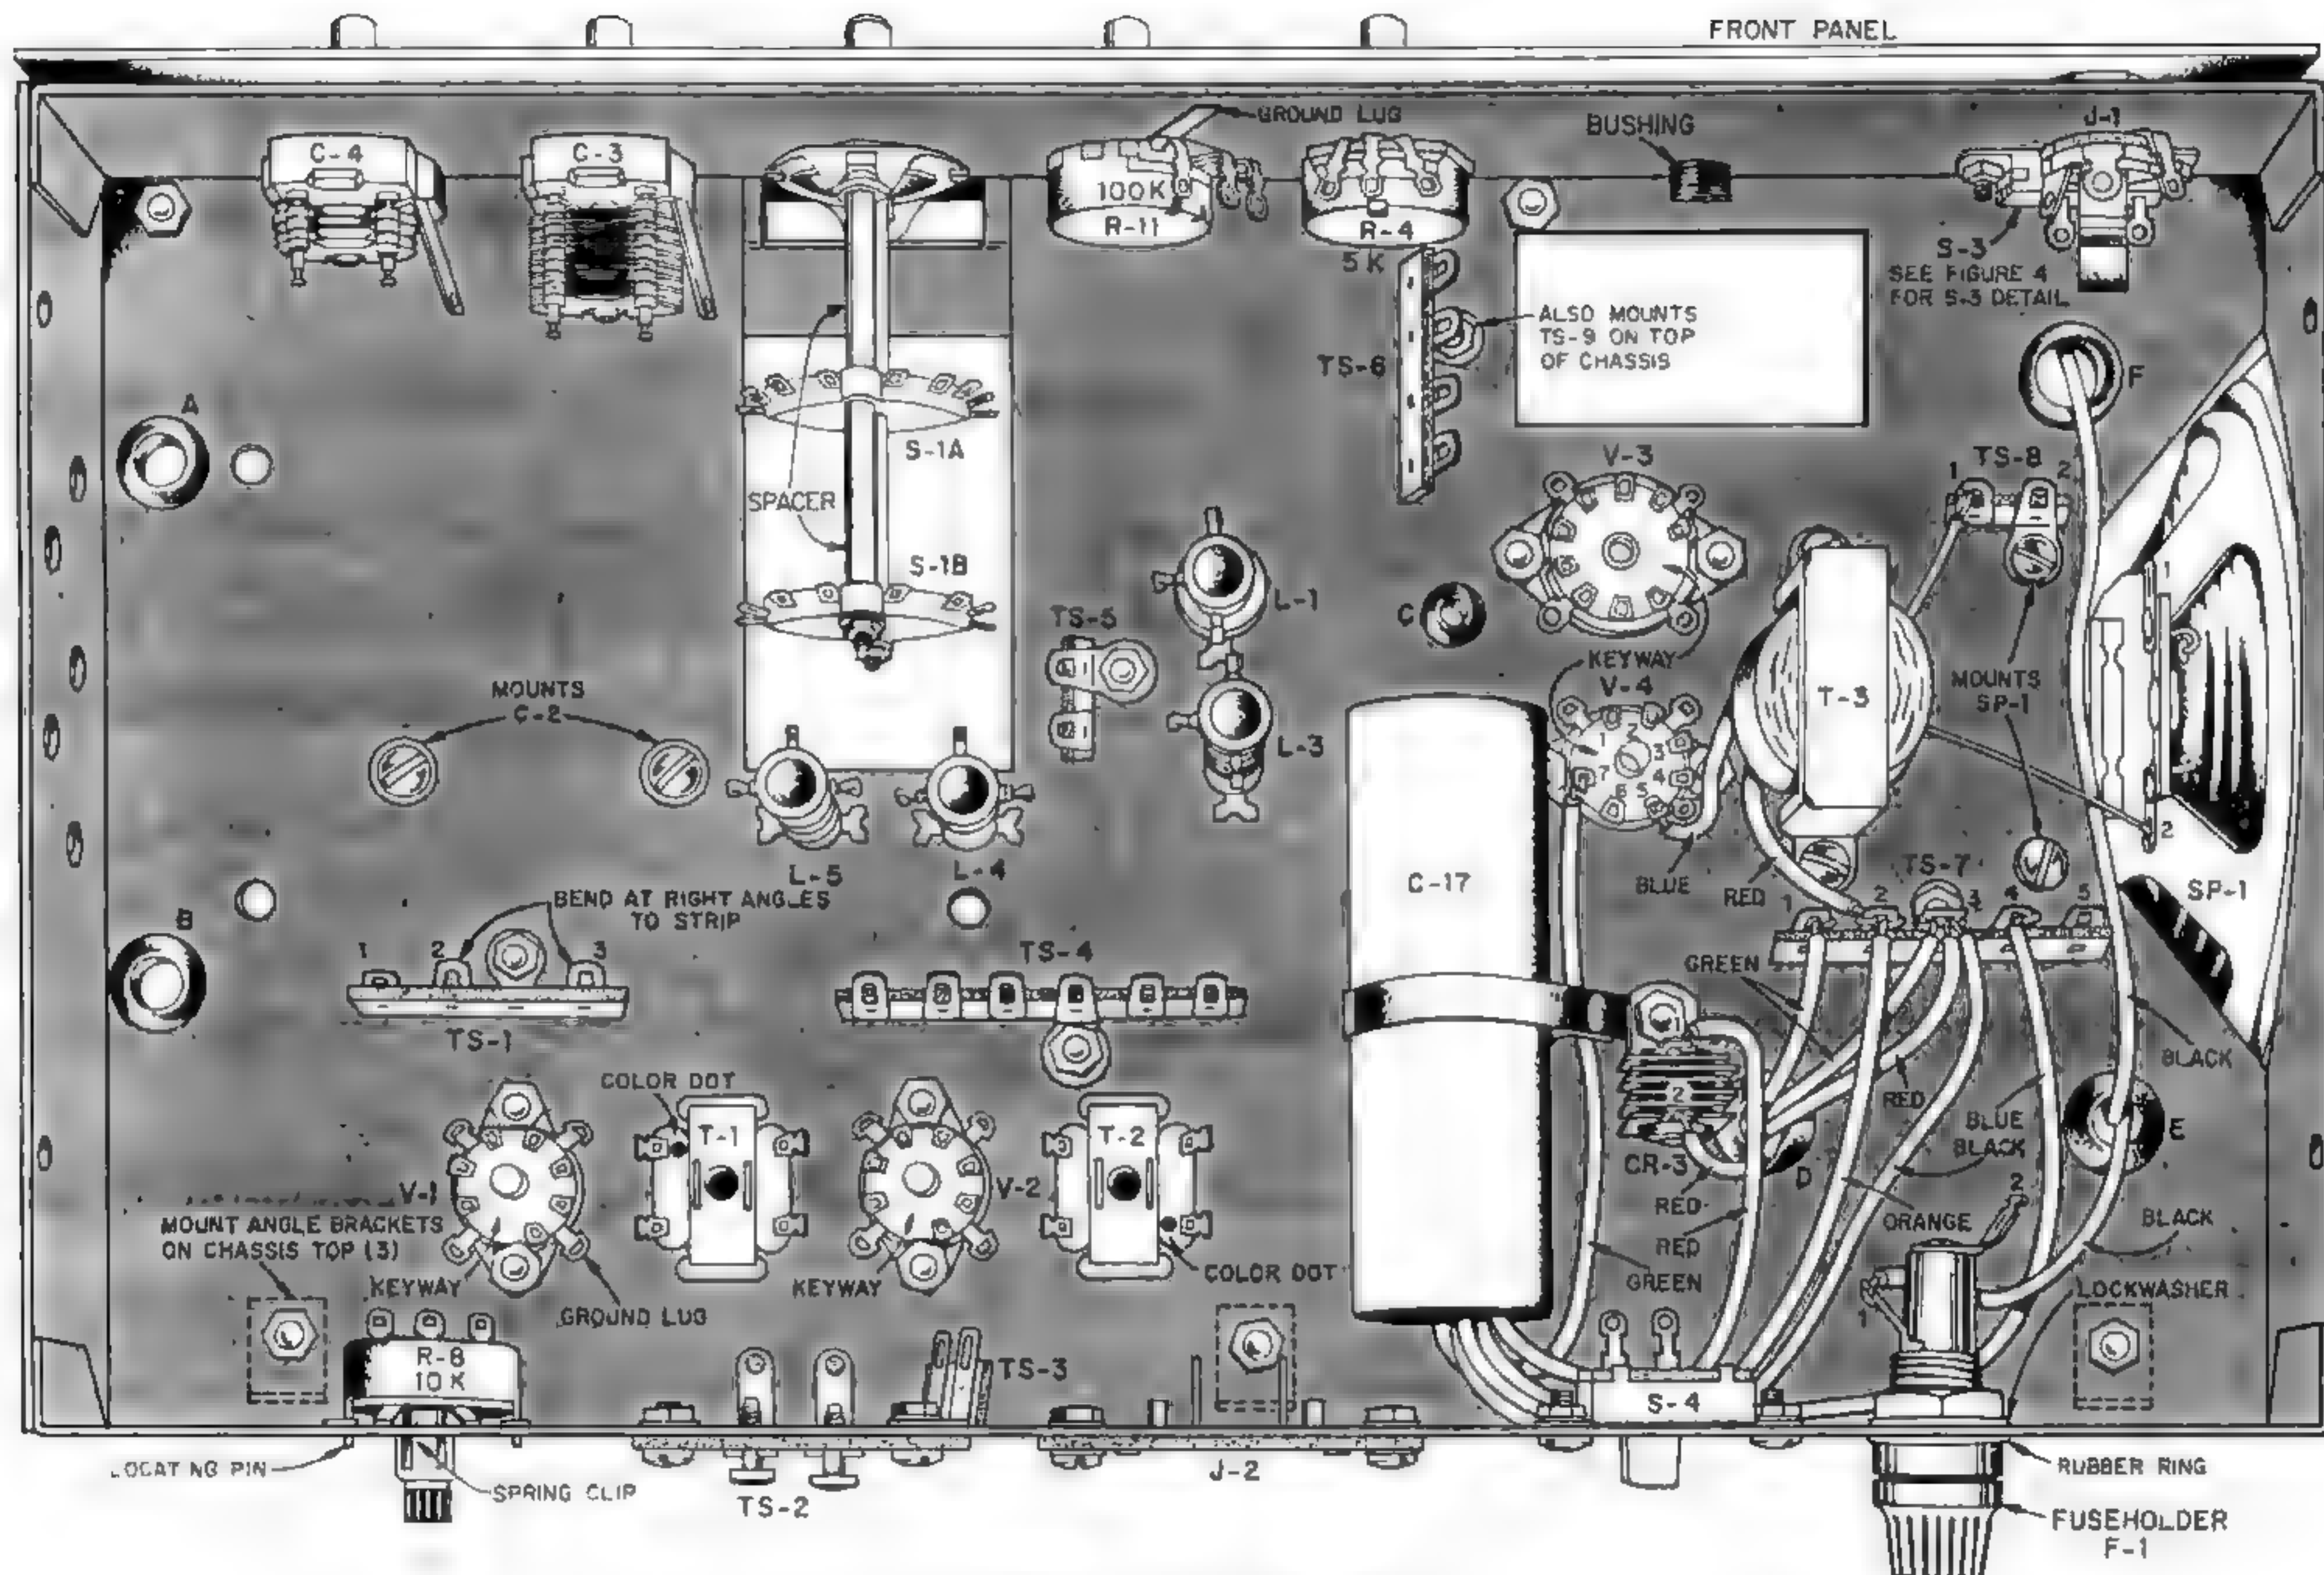

FIGURE 1. PARTS MOUNTING
- ☒ Long black lead. Position the wire as shown in Figure 1 and push the end of the wire through grommet F; it will be connected later.